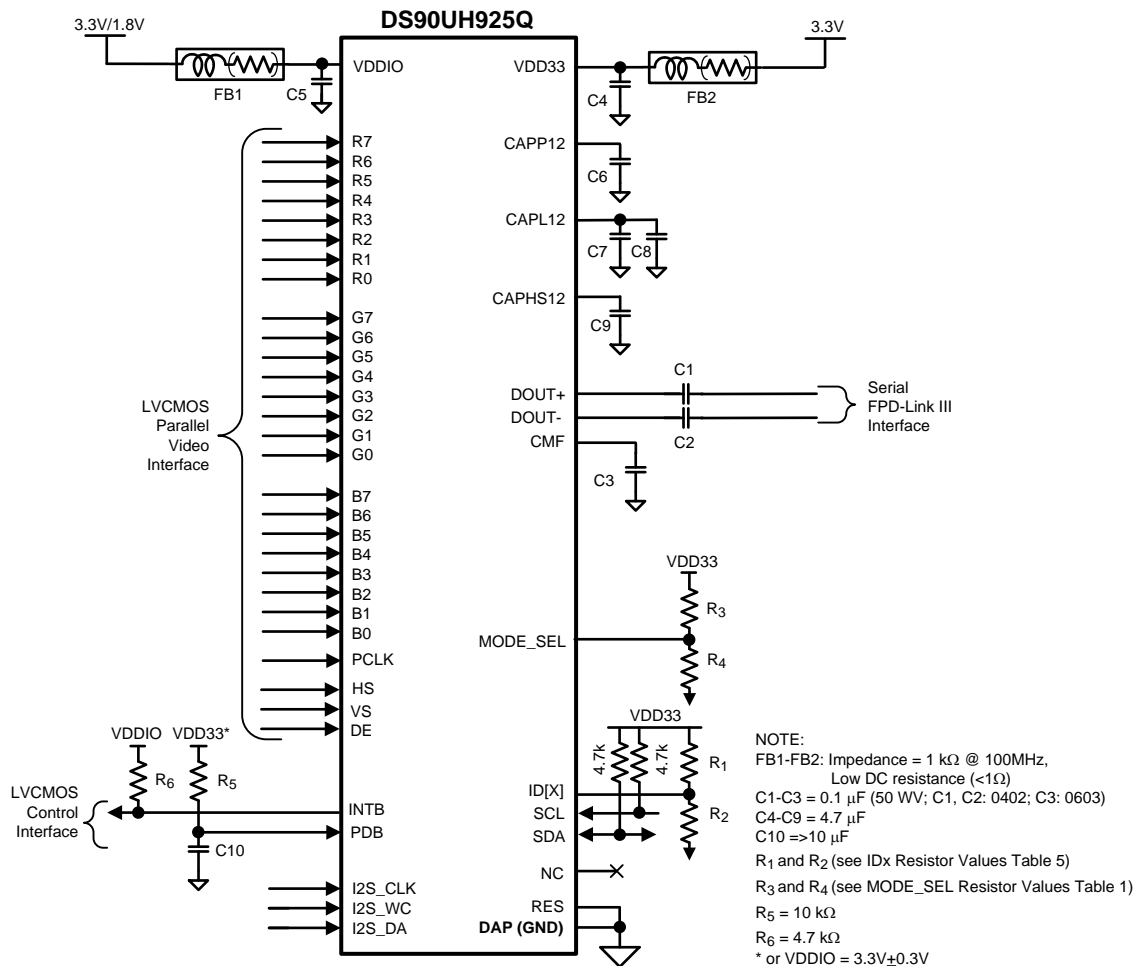

Figure 24. Typical Connection Diagram
Figure 24 shows a typical application of the DS90UH925Q serializer for an 85 MHz 24-bit Color Display Application. The CML outputs must have an external 0.1 μ F AC coupling capacitor on the high speed serial lines. The serializer has an internal termination. Bypass capacitors are placed near the power supply pins. At a minimum, six (6) 4.7 μ F capacitors (and two (2) additional 1 μ F capacitors should be used for local device bypassing. Ferrite beads are placed on the two (2) VDDs (V_{DD33} and V_{DDIO}) for effective noise suppression. The interface to the graphics source is with 3.3V LVCMOS levels, thus the V_{DDIO} pin is connected to the 3.3 V rail. A RC delay is placed on the PDB signal to delay the enabling of the device until power is stable.
- Updated “Figure 24. Typical Connection Diagram”
- Corrected typo in Table 5. Serial Control Bus Addresses for IDx #11 Ideal V_{R2}(V) from 2.475 to 1.475